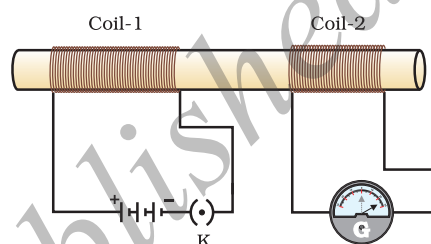

Figure 13.17
- Take two different coils of copper wire having large number of turns (say 50 and 100 turns respectively). Insert them over a non-conducting cylindrical roll, as shown in Fig. 13.17. (You may use a thick paper roll for this purpose.)